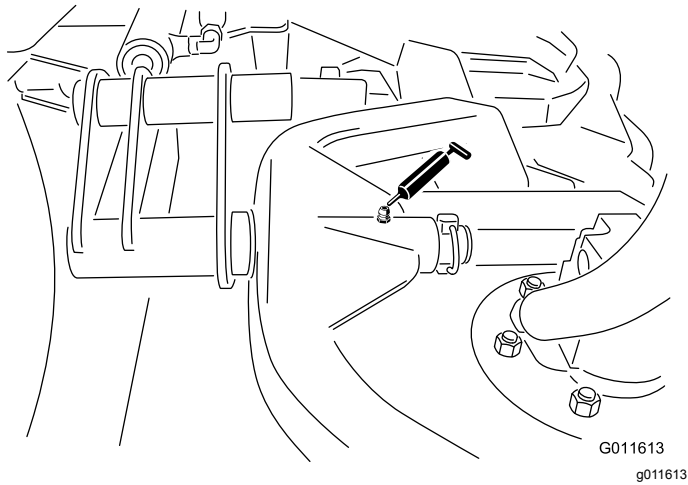

Figure 49
- Cutting unit carrier frame pivot (1 each) (Figure 49)